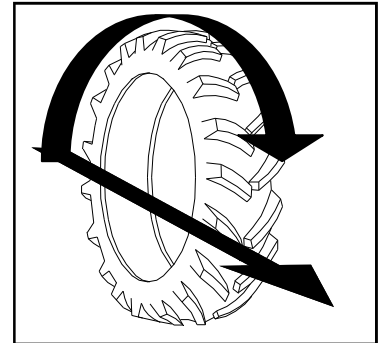

FIG 97-1
**WHEEL BOLTS**– If you do not have the proper equipment to mount a tire, let your local qualified tire sales/service dealer mount the tire for you. The tire should be mounted on the rim according to figure 97-1 for best traction and tread cleaning action. To install wheel and tire assembly on the wheel hub lubricate studs with an anti-seize grease. Align the wheel bolt holes with the wheel hub studs and mount the wheel on the hub.